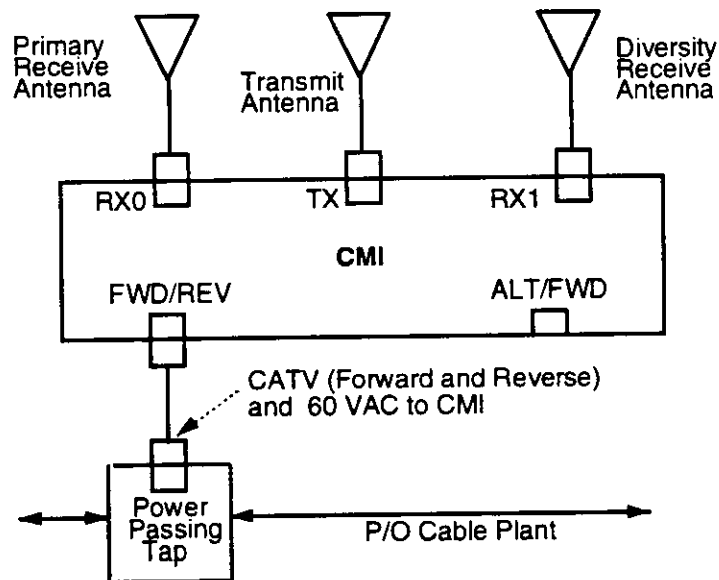
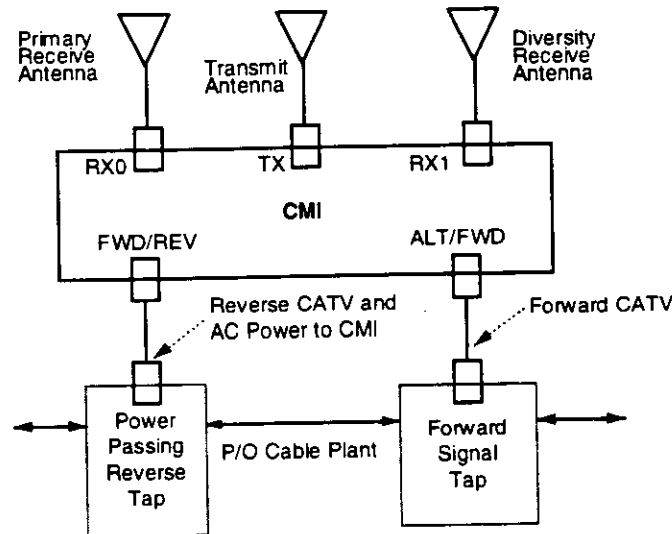

Figure 3-8. Single Power Passing Tap
Figure 3-11. Power Passing Reverse Link Tap and Separate Forward Link Tap
Figure 3-8 shows the installation site prepared with a single Power Passing Tap to provide AC power to the CMI and to provide a connection to both the reverse link and forward link CATV signals. This tap is then connected to the FWD/REV port of the CMI. This connection can be made by installing 5/8 x 24 housing-to-F female adapters into both the Power Passing Tap output port and the CMI FWD/REV port. The two adapters can then be connected using a type F cable. The switch on the Single-Mode Power Extractor is set to FWD/REV UP/DOWN.
Figure 3-11 shows the installation site prepared with a Power Passing Tap to provide AC power to the CMI and to provide connection to the Reverse link CATV signal. This tap would then be connected to the FWD/REV port of the CMI. A second Signal Tap is used on the cable plant to connect the Forward link side of the cable plant to the CMI through the CMI ALT/FWD port. The switch on the Dual-Mode Power Extractor is set to FWD/REV UP/DOWN.
Cable installation and routing includes securing cables to the messenger strand/CATV cable and interconnecting the various hardware assemblies using Figure 3-8 through Figure 3-11.
This procedure is provided for guidance for routing the Power and CATV cables. Refer to Figure 3-8 through Figure 3-11 for typical tap configurations and Figure 3-2 for CMI connector location.
- c. Connect cables, as applicable, per Figure 3-8 through Figure 3-11.